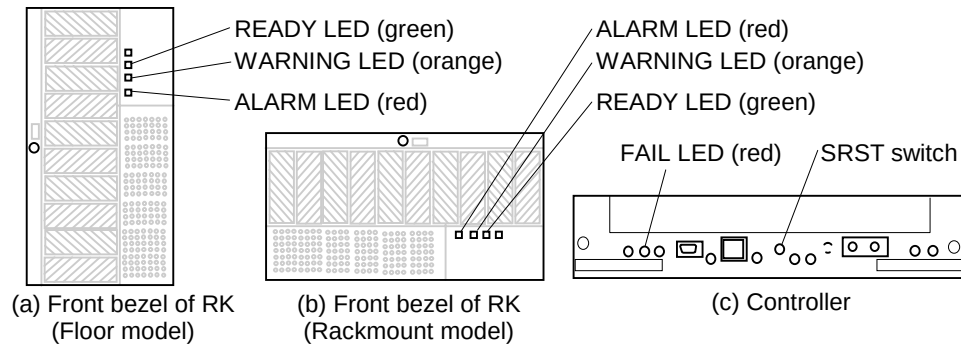

Figure 7.3.2 Indication Name
- (b) Proceed to the procedure starting from the step (c) after making sure that the READY LED (green) or ALARM LED (red) on the subsystem are on. (Also proceed to the procedure starting from the step (c) in the case where the READY LED (green) and ALARM LED (red) do not come on after waiting for ten minutes when the power is turned on.) (See Figure 7.3.2.)
- (i) Press the SRST switch of the Controller#0. (See Figure 7.3.2.)